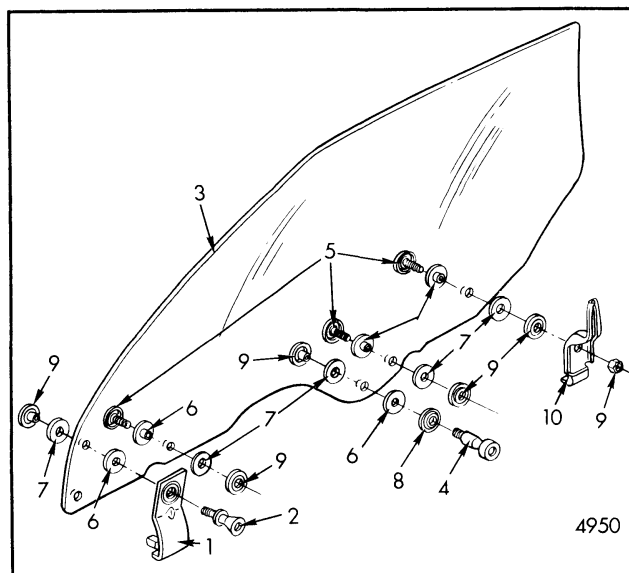

Fig. 5-83-Front Door Window Assembly "A-37, 57 and 80" Styles
Figure 5-83 is an exploded view of the window assembly and identifies the various components and their assembly sequence.
**NOTE:** When installing glass attachments, torque nuts to 72 inch pounds (6 foot pounds). Also, when replacing door glass, replace glass spacers and washers ("6" and "7", Fig. 5-83).